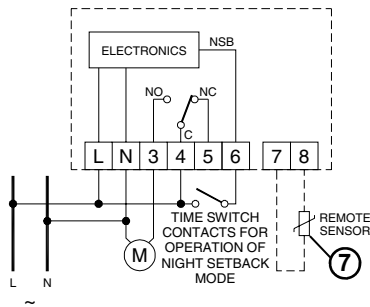
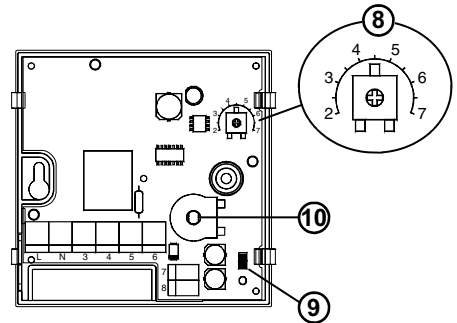

Fig. 5
Fig. 6
Through the internal temperature adjustment trimmer, see (10) Fig. 6, the user can set the temperature around which the regulation will take place, as explained above.
- 4.** Make the wiring connections to the backplate as shown in Fig. 5 including any remote sensor connections to terminals 6 and 7.
Terminal **6** Fig. 5 energises the "night setback" mode. The night setback temperature is adjustable from 2 °C to 7°C by means of the internal trimmer (**8**) Fig. 6. The trimmer is factory set to 4.5°C.
When using the remote sensor option with the thermostat, connect the sensor as shown in Fig. 5 (**7**) and remove the jumper on the bottom right hand corner of the backplate - see (**9**) Fig. 6. Cased remote sensors must be connected in cable of at least 1.5mm² cross sectional area and not greater than 25m in length. Do not put mains cables and sensor cables next to one another.